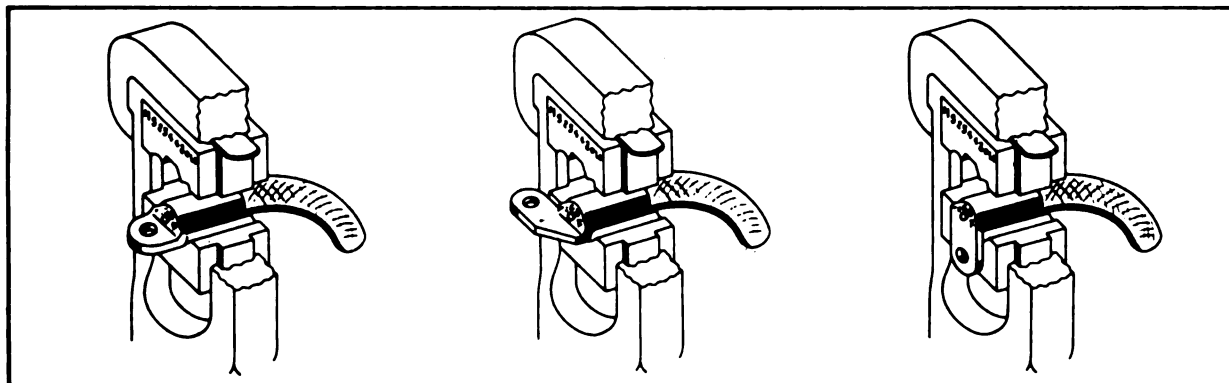

Figure 5-11. Positioning Aluminum Terminal Lugs in Die Nests
h. Insert assembly into the die correctly positioned as shown in figure 5-11.